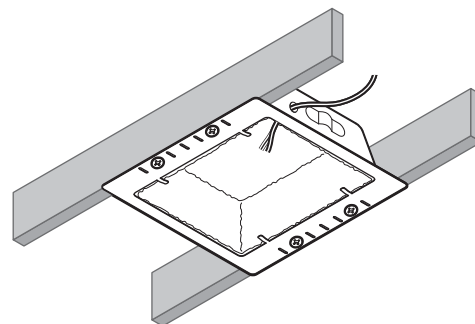

Fig. 4
STEP 4: Route the wiring. See Fig. 4.